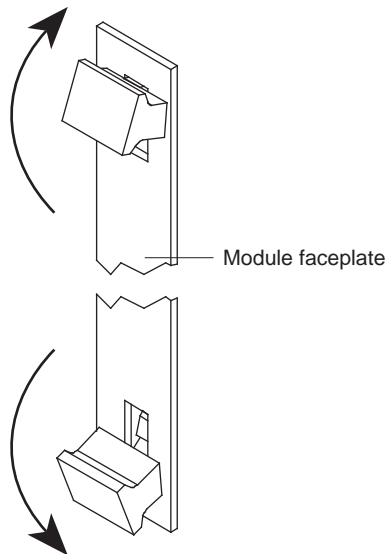

Figure 4 Handles in Outward Position
- 3 Make sure that the inject handles are in the outward position. See Figure 4.